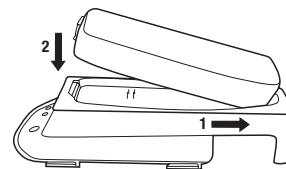

Fig. 1
- Insert the battery pack into the TR-340 charging cradle by sliding the back end of the battery pack in first. Push down to click the front end into place (Fig. 1).